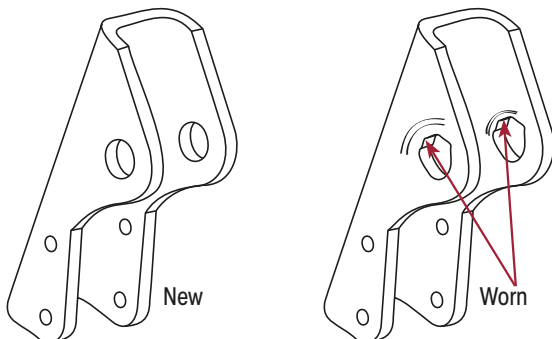

Figure 154: Inspecting Shock Bushes & Mounts
Damage to mounting holes by a loose shock absorber bolt must be replaced or repaired. Otherwise, it may cause the new shock absorber to also come loose. Refer Figure 154.
3. Inspect shock absorber mountings for damage or wear that may allow shock to come loose in service. Refer Figure 154.